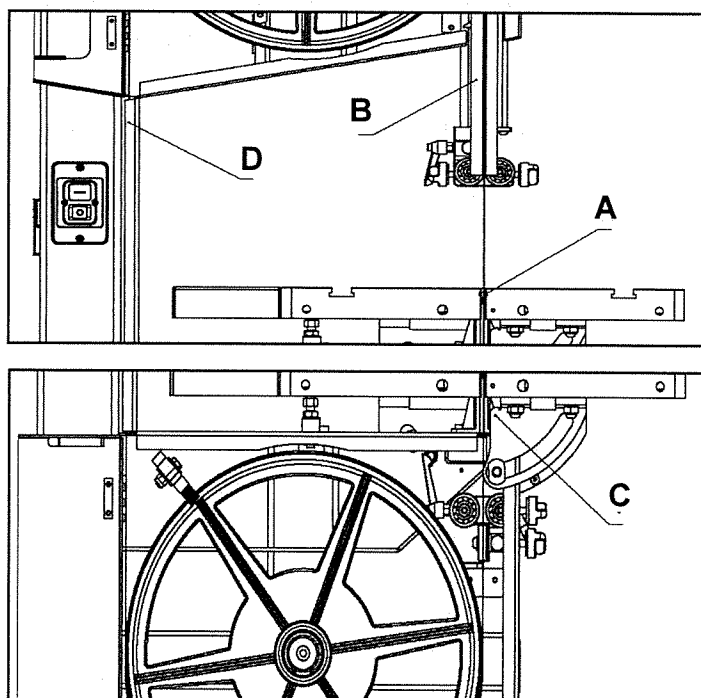
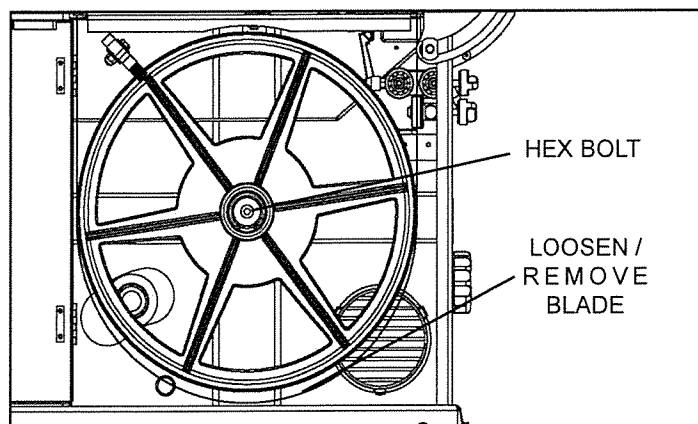

FIGURE 15
FIGURE 24
CAUTION Always tension the blade with the rear Quick Release Lever (#6D) in the "ON" position. Failure to do so could result in lack of blade tension or tension failure. FIG. 15.
1. Remove the Table Leveling Bolt from the blade slot at the front of the table. FIG. 15, A.
3. Move the Upper and Lower Blade Guides away from the sides and rear of the saw blade. FIG. 15, B, C. See pages 15 and 16 for details.
1. Release the tension on the bandsaw blade (See page 14, FIG. 15) and move the blade off of the lower wheel, or take the blade totally off from the saw. FIG. 24.
3. Take the Lower Wheel (#10B) off of the saw by removing the Hex Bolt (#1B) that is in the middle of the lower wheel. FIG. 24 & 25.